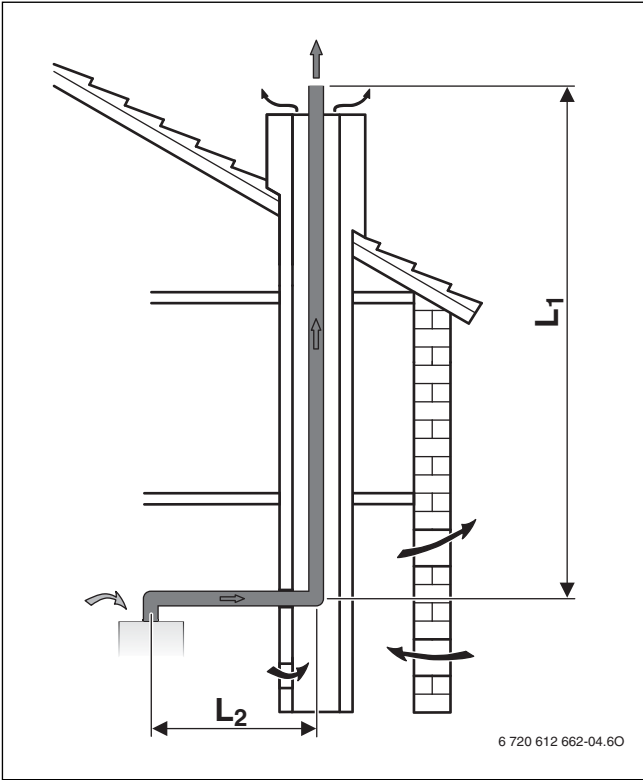

Fig. 19 Routing the flue through a duct as per B_{23}
- Flue to the duct as single pipe (B₂₃, → Fig. 19 and 20):
- Cleaning is not required if the flue gas is routed inside a duct with secondary ventilation (→ Fig. 19, 20, 22).